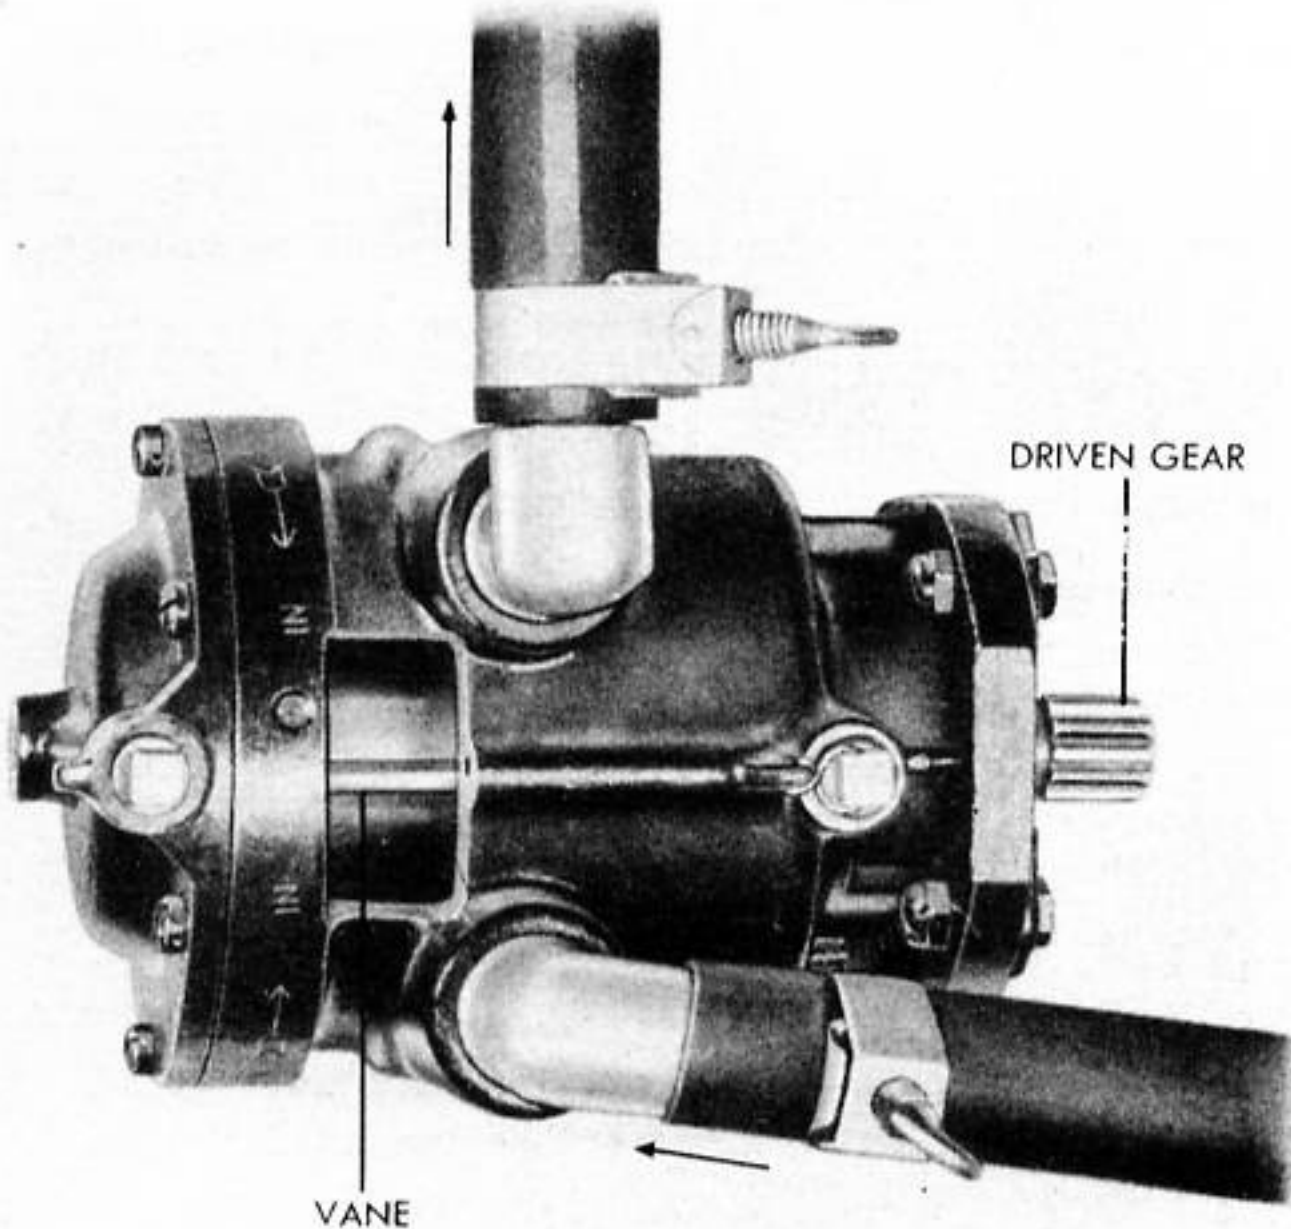

Figure 162 - VACUUM PUMP - CUTAWAY VIEW
(6) VACUUM PUMP. (See figure 162.) - To supply vacuum for the operation of gyroscopically actuated instruments, a vane-type vacuum pump operates in the oil system. The vacuum pump takes its small oil requirements from the engine accessory section on which it is mounted by four stud bolts. The pump is gear driven as an engine accessory. Incorporated in the vacuum line to the instruments are four valves. A suction relief valve is located at the engine accessory section forward of the fire wall on the inside of the nacelle. It controls flow in one direction in the event of backfire of the engine. A master relief valve